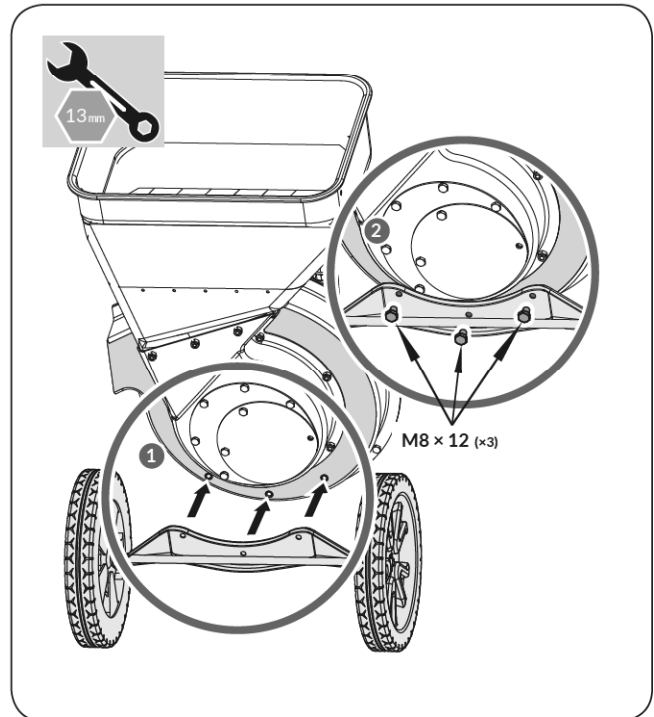

Figure 2
2. Align the three holes on the wheel axel bracket with the three holes on the fan blower housing. (See **Figure 2, Illustration 1**) Then, secure the wheel axel bracket with the three M8×12 bolts from the Hardware Kit#2 as shown in **Figure 2, Illustration 2**.